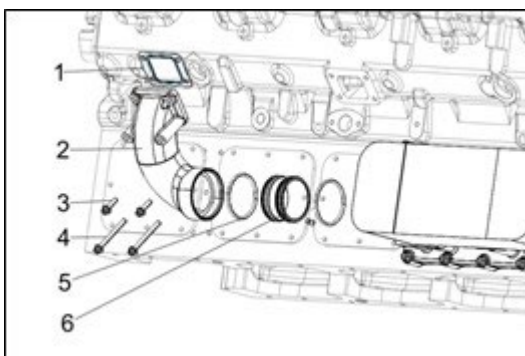

Figure 149
2. Remove the oil cooler water outlet pipe (Fig 149, item 2), loosen the fixed bolts (Fig 3, items 3,4) take the water outlet pipe, pay attention to the gasket (Fig 3, item 1).